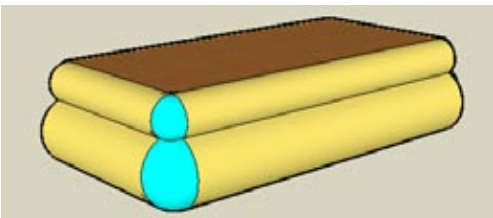

Figure 4-21
9. Use the Follow Me circle as the path for the newly painted Follow Me face, to create the rounded object in the corner (Figure 4-21).